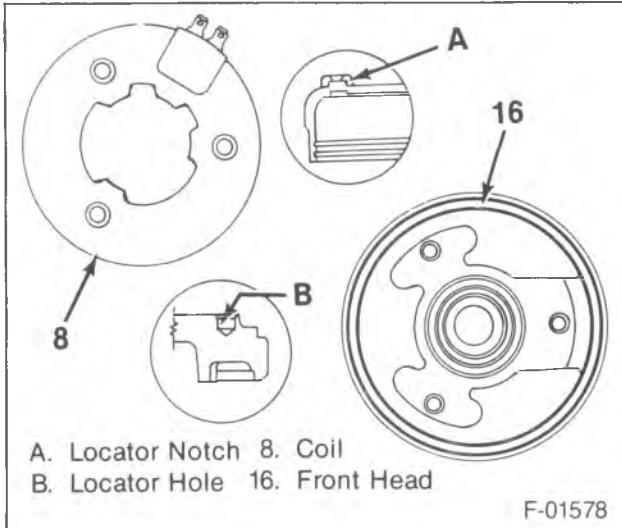

Figure 11—Adhesive Fill Guide
→ Install or Connect (Figures 11 and 12)
1. Adhesive to the clutch coil (8) (figure 11).